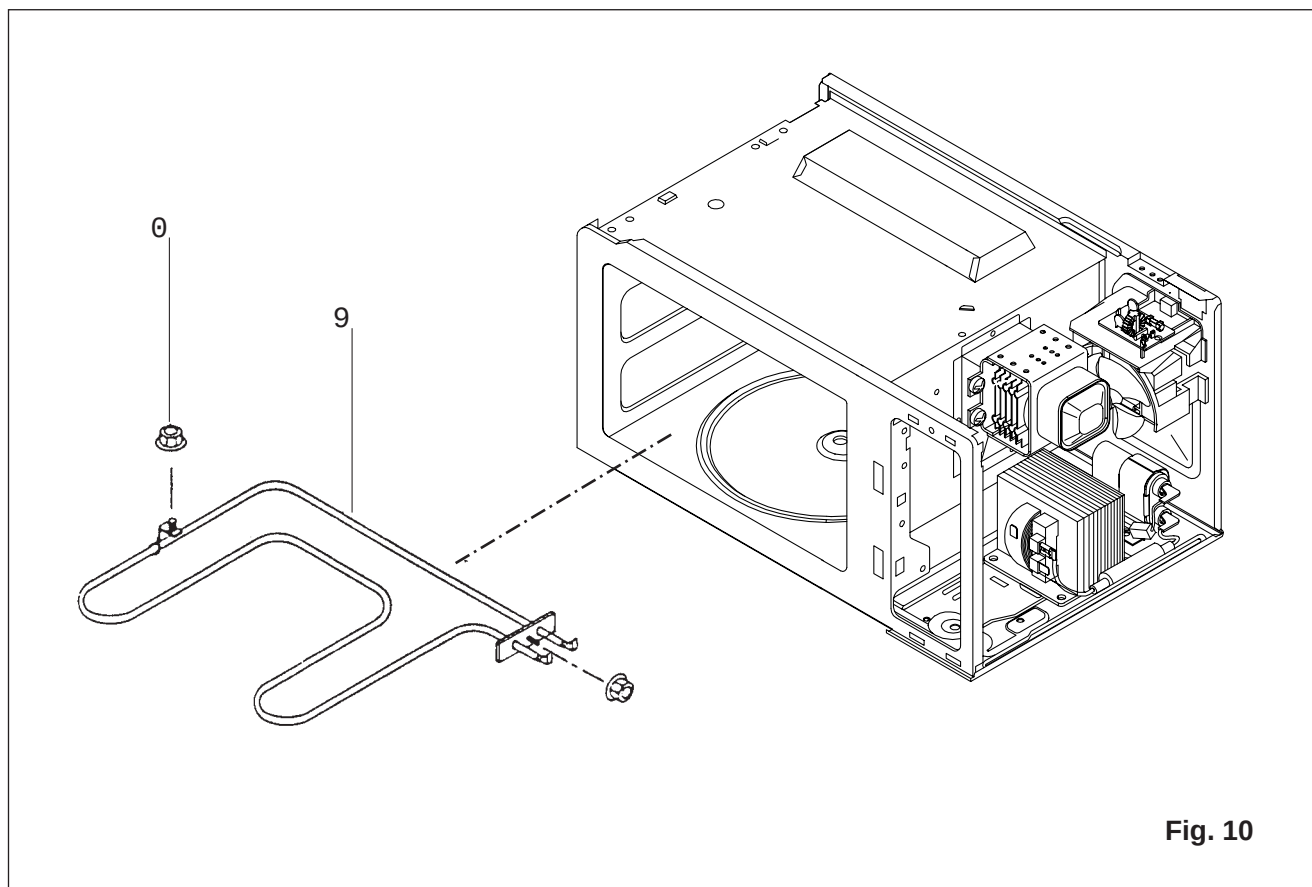

Fig. 10
10. To remove grill heater assembly (Refer to Fig. 10)